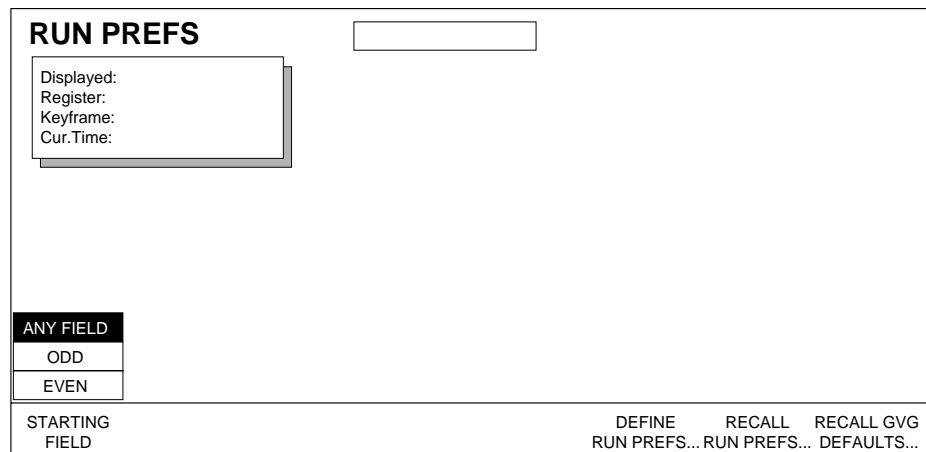

Figure 3-32. Run Preferences Menu
1. From the System Setup menu, press RUN Prefs > to go to the Run Preferences menu (Figure 3-32).